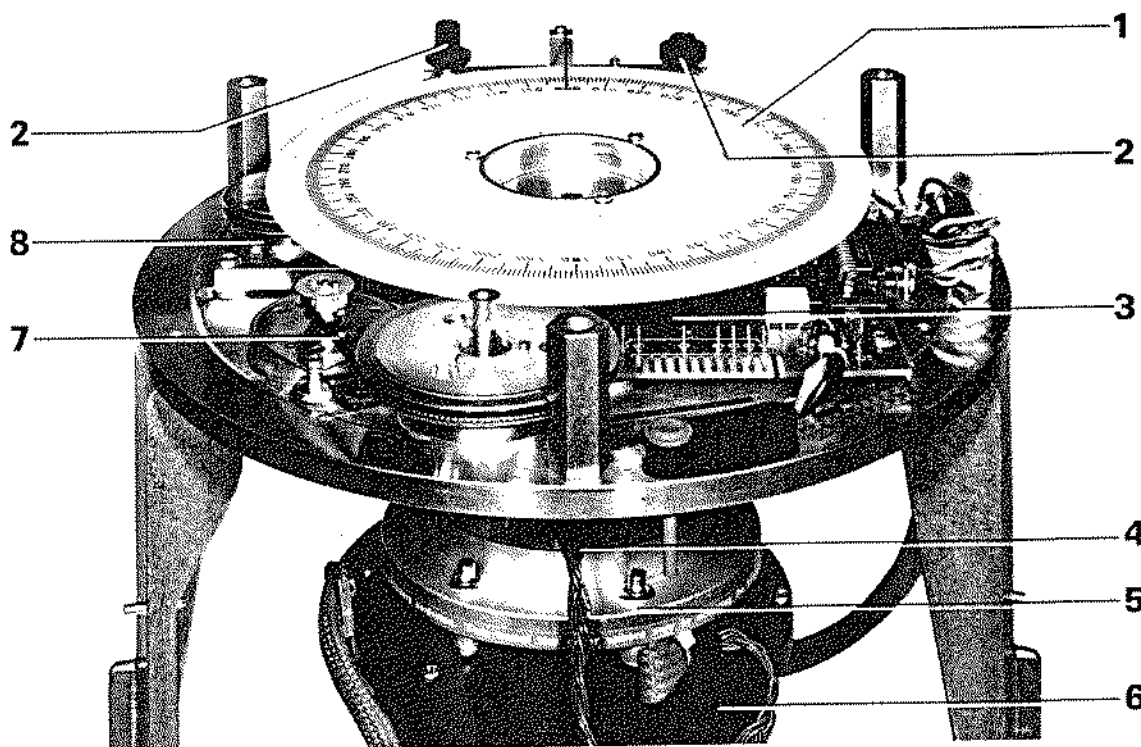

Fig.1- 3:
- 3 Steering– or Bearing Repeater Compasses (with ANSCHÜTZ step system) (Fig. 1–1.4, 1–1.10),
or Digital Repeater Compasses (Fig. 1–1.7).
- 1 Signal Unit, e.g. ANSCHÜTZ "NAUTOALARM", Type 135–089 (Fig. 1–1.8).
- 1 Autopilot, e.g. ANSCHÜTZ "PILOTSTAR" or "NAUTOPILOT" (Fig. 1–1.5).
- 1 Automatic Sea Chart Table, ANSCHÜTZ "NAUTO PLOT" (Fig. 1–1.11).
- 3 Setellite Navigation and/or Communication Systems (Fig. 1–1.6),
or Redar Equipment or Direction Finder (Fig. 1–1.6).
- 1 Course Transducer, ANSCHÜTZ, Type 132–603 (Fig. 1–1.3)
- 1 Time Switch, Type NB 03–735 (Fig. 1–1.9).